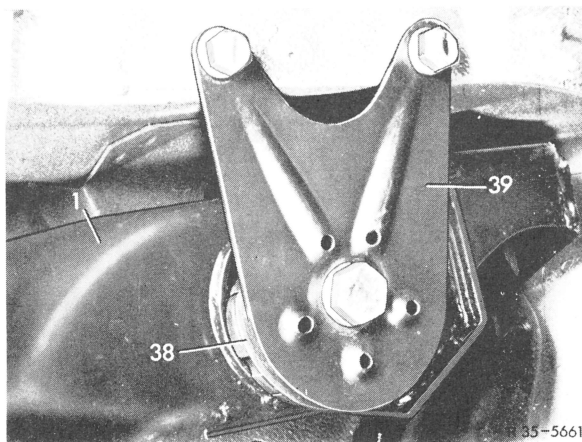

Fig. 4
- 11 Unscrew supporting plates and front rubber mounting on frame floor (Fig. 4).
18 Mount supporting plates for rubber mounting on frame floor. Tighten hex. bolt on rubber mounting to 120 Nm (12 kpm) and hex. bolts on supporting plate to 40 Nm (4 kpm) (Fig. 4).